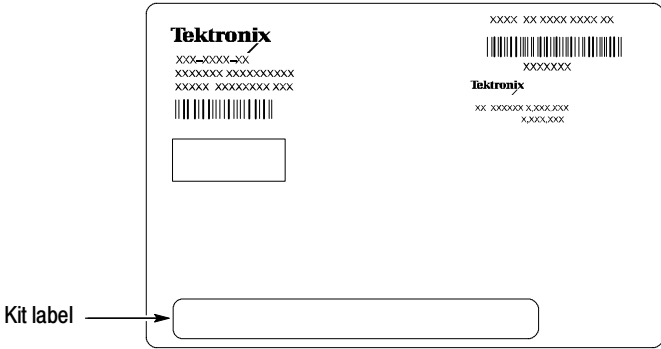

Figure 4: TLA700 series logic analyzer module label
- PowerFlex kit label. This label is located on the side of the module; it lists the current PowerFlex option and the upgrade key. See Figure 4 on page 9.
4. Locate the big label on the side of the logic analyzer module (see Figure 4).
5. Note the location of the long label (indicated by “Kit label” in Figure 4). Depending on your instrument, this could be a label inside a rectangle or a string of text.
6. Locate PowerFlex option label from the label sheet that you received with this kit. Peel the label from the sheet and affix it to the location indicated by “Kit label” in Figure 4. For TLA7NAX modules skip to step 11 on page 11 after you have completed step 6.